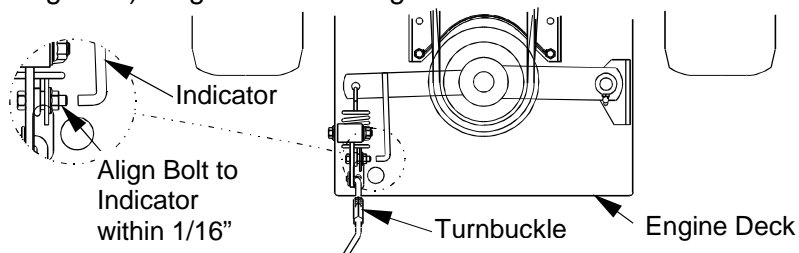

FIGURE 7
b) With PTO engaged, adjust the linkage length by loosening the locknut on the turnbuckle and adjusting the turnbuckle so that the bolt on the bellcrank and the indicator arm align with each other within 1/16" (.16 cm) (See Figure 7). Tighten locknut against turnbuckle.